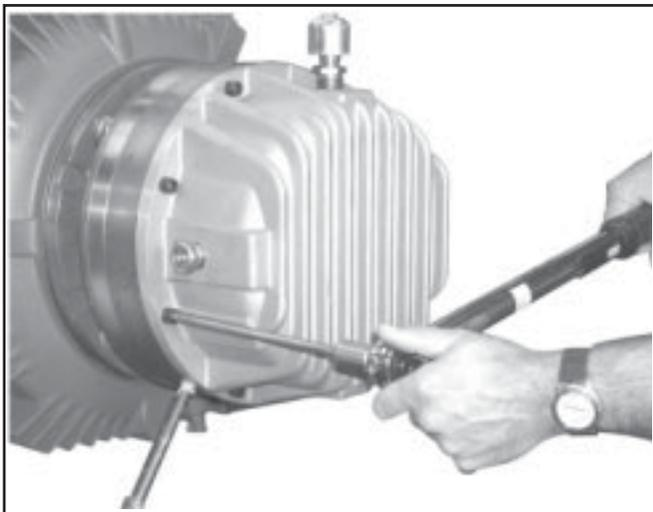

Figure 3.10
The Breather (#45) is to be located on the top as shown in Figure 3.10.
Attach the End Housing with (8) Soc. Hd. Cap Screws (#72) and Lockwashers (#128) to a torque reading of **37 lb. ft.** (See Figure 3.10)